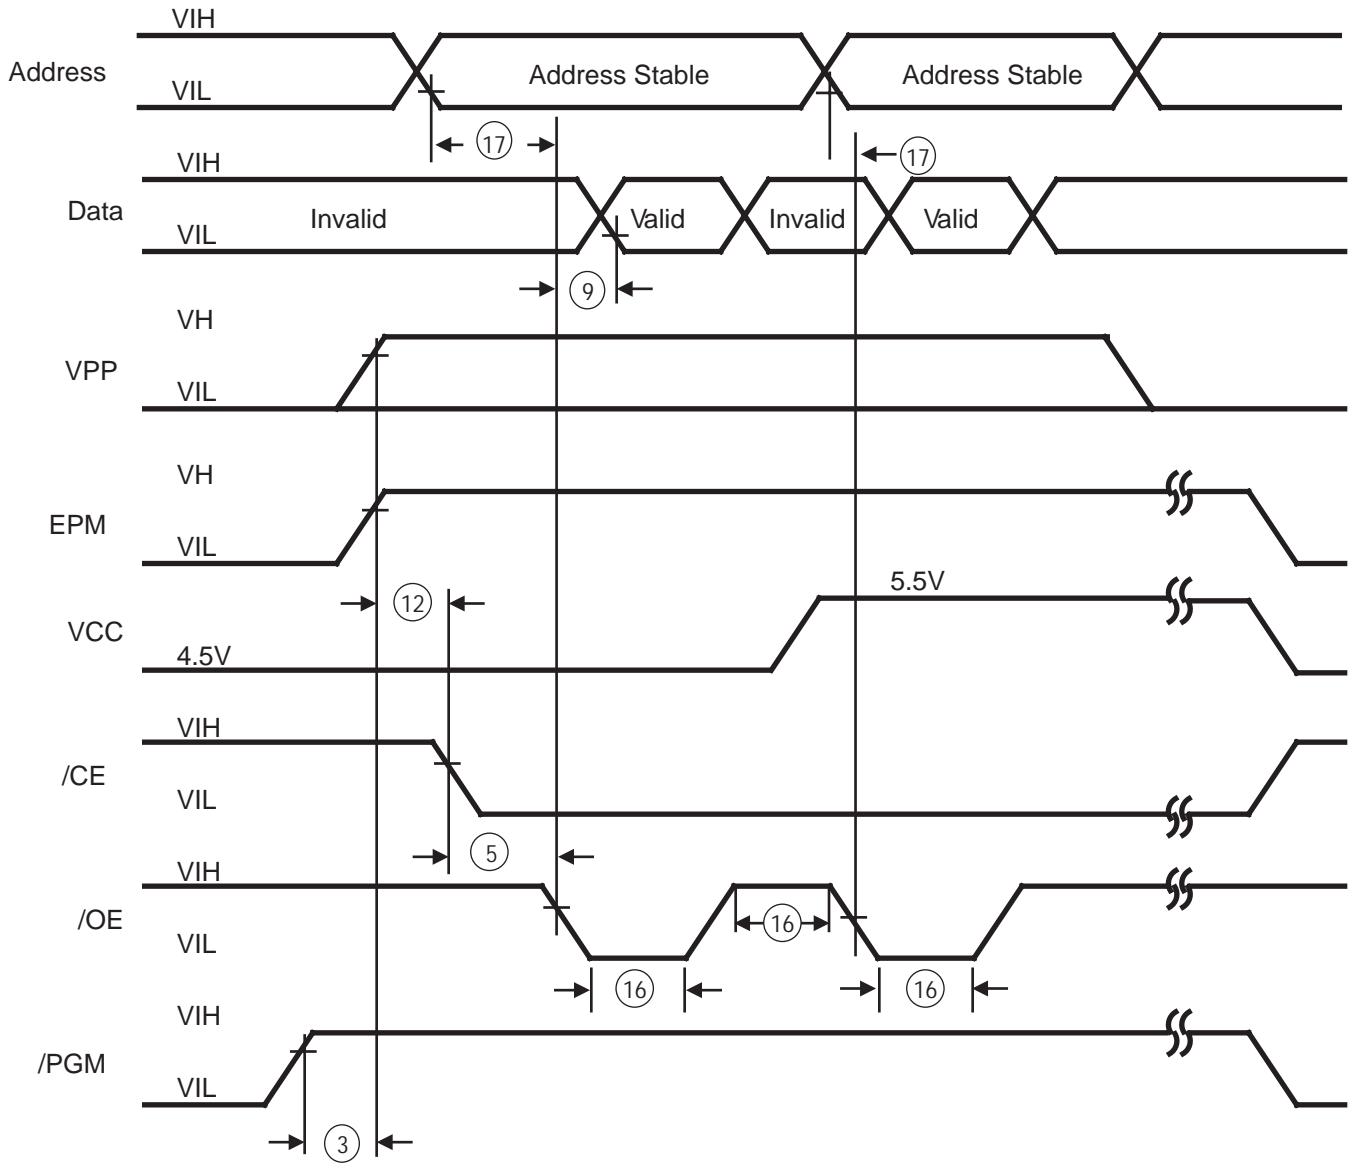

Figure 19. Z86E04/E08 Programming Waveform
**Programming Waveform.** Figures 19, 20 and 21 show the programming waveforms of each mode. Table 8 shows the timing of programming waveforms.